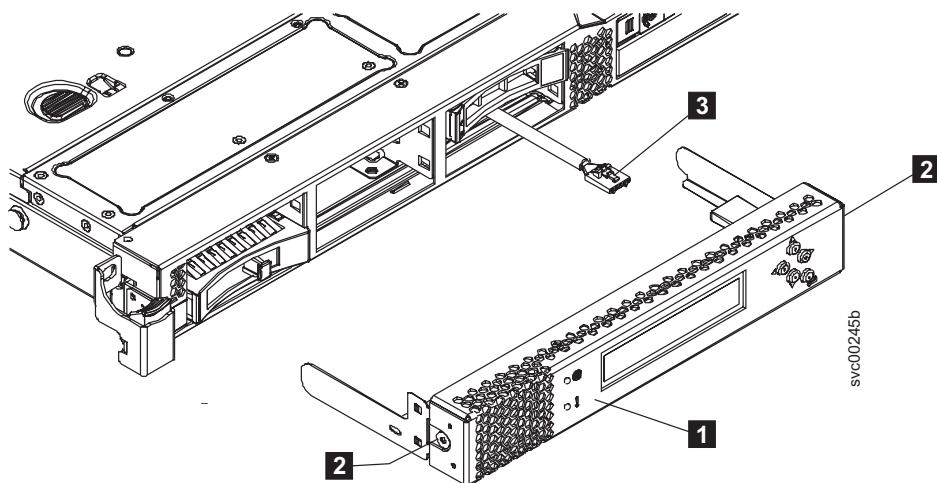

Figure 82. SAN Volume Controller 2145-CG8 or 2145-CF8 service controller (SAN Volume Controller 2145-CF8 shown)
1. When the service controller, as shown by **1** in Figure 82, is close enough to the USB cable (**3**), attach the cable to the service controller, if necessary.